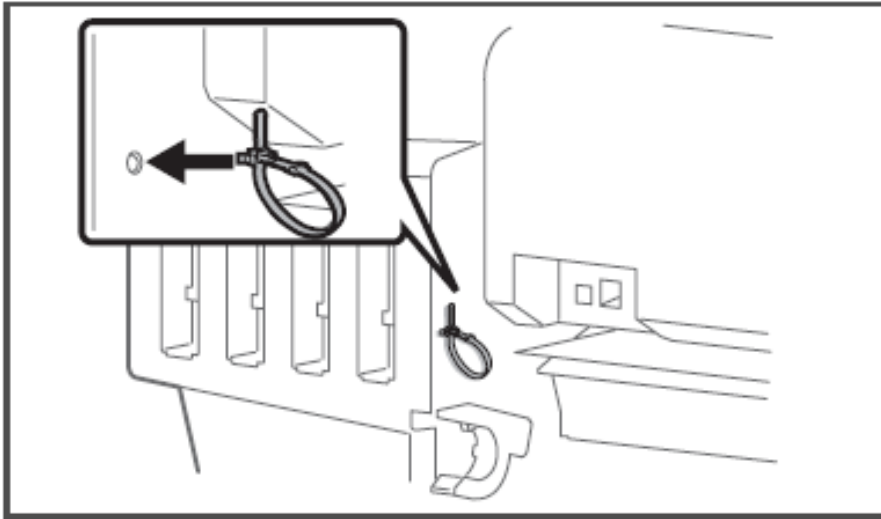

Figure 9
11. Install the other tying band on the opposite side as shown below. This tying band is for fastening the ethernet cable so that it will not interfere with the roll media. See Figure 9.